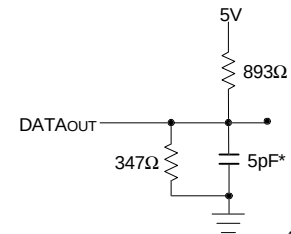

Figure 2. Output Test Load
1. Transition is measured $\pm 500\text{mV}$ from Low or High-impedance voltage with Output Test Load (Figure 2).
1. Transition is measured $\pm 500\text{mV}$ from Low or High-impedance voltage with the Output Test Load (Figure 2).
7. This parameter is guaranteed by device characterization, but is not production tested. Transition is measured $\pm 500\text{mV}$ from steady state with Output Test Load (Figure 2).